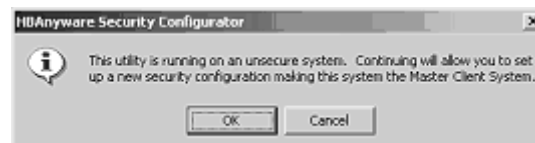

Figure 79: HBAnyware Security Configurator “Unsecure System” Message
1. Start the HBAAnyware Security Configurator for the first time in an unsecured environment. The computer from which you run the Configurator becomes the MSC. The “Unsecured System” message appears (see Figure 79).